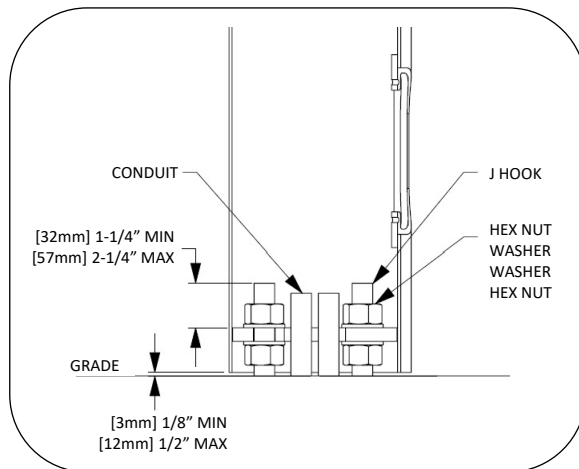

FIG. 3 – ANCHOR INSTALL DETAIL
4. Once unit is level, using deep socket with extension, install upper washers and hex nuts, see Fig. 3.